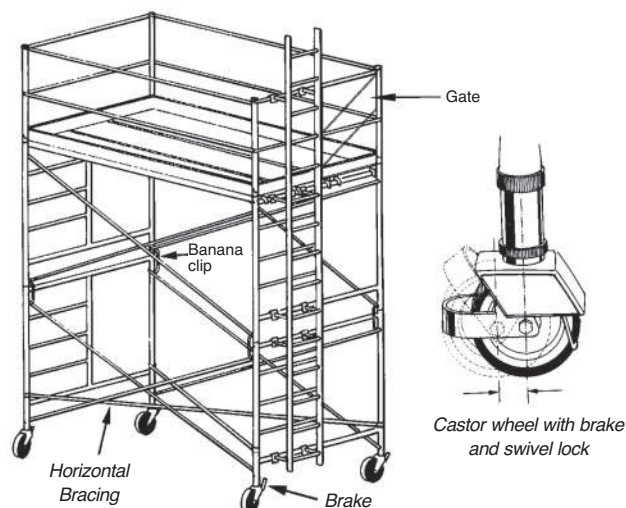

Figure 4.3
This is the most frequently used scaffold in construction. Historically it has been made of steel tubing, but aluminum is gaining popularity. The scaffold is manufactured in various configurations and spans. On some systems, ladder rungs are built into the end frames (Figure 4.1). These ladders are not suitable for tall scaffold towers unless rest platforms are installed at regular intervals and trapdoors are provided in the platforms. Other models are equipped with ladders that attach to the end frames (Figure 4.3). The ladder shown in Figure 4.3 is continuous and workers gain access via gates at the platform level. Again this ladder is not suitable for high scaffolds. Scaffolds in excess of 9 metres (30 feet) should have built-in stairs with rest platforms. Vertical ladders can reach up to 9 metres, but above 2.2 metres (7 feet) they require a safety cage.
- **Castor Type.** This type of scaffold is best suited for work on smooth floors and is typically used inside buildings. All castors should be equipped with braking devices (Figure 4.3). This kind of scaffold should be erected so that its height-to-width ratio is no greater than 3 to 1. This limits the height of platforms with standard outrigger stabilizers and single span towers to approximately 9 metres (30 feet).